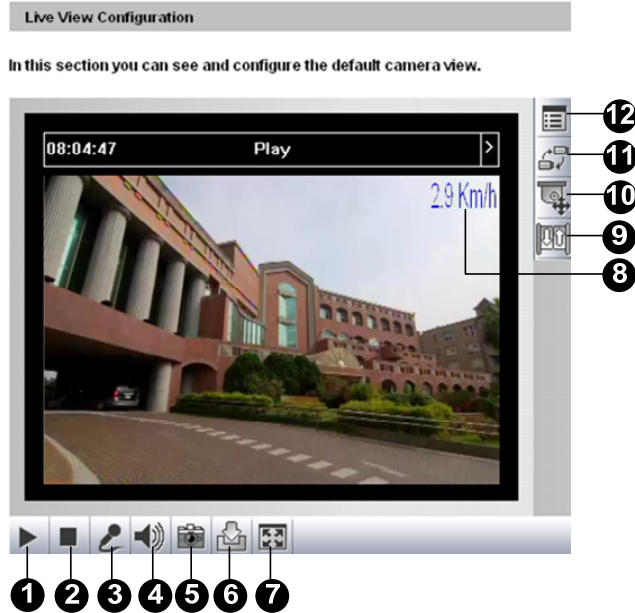

Figure 5-5
1. Click the **Snapshot** button (No. 5, Figure 5-5). The Save As dialog box appears.
1. Click the **File Save** button (No. 6, Figure 5-5). The Save As dialog box appears.
4. To stop recording, click the **Stop** button (No. 2, Figure 5-5).
To configure this function, click the **Show System Menu** button (No. 12, Figure 5-5), and select **Alarm Notify**. This dialog box appears.
You can enable the microphone and speaker for two-way audio communication and adjust the audio volume. To change audio configuration, click the **Show System Menu** button (No. 12, Figure 5-5), and select **Video and Audio Configuration**.
You can view the connection status of the central monitoring stations and upgrade firmware over the network. Click the **Show System Menu** button (No. 12, Figure 5-5), and select **Remote Config**. The Remote Config dialog box will appear.
To display the camera name on the image, click the **Show System Menu** button (No. 12, Figure 5-5), and select **Show Camera Name**.
To enhance the image quality of live video, click the **Show System Menu** button (No. 12, Figure 5-5), and select **Image Enhance**. This dialog box appears.
To open the PTZ control panel, click the **PTZ Control** button (No. 10, Figure 5-5) and select **PTZ Control Panel**. The features included in the **Option** button may vary depended on different PTZ devices.
- To access this feature, click the **PTZ Control** button (No. 10, Figure 5-5) and select **Visual PTZ**.